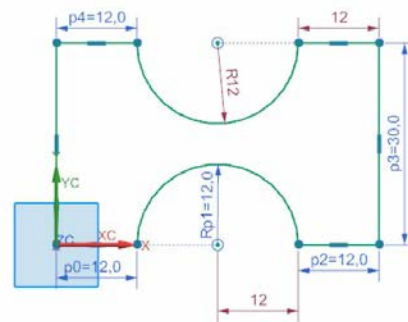

Figure 2-62 Final sketch for Tutorial 3
- Press the ESC key twice to exit the **Profile** tool. The final sketch of the model is shown in Figure 2-62.